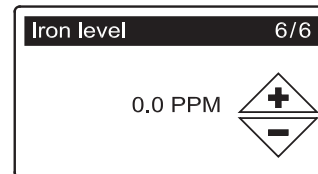

FIG. 13
- 11. IRON LEVEL** Press the UP (▲) or DOWN (▼) buttons to set the value for iron in your water (See Figure 13). The conversion factor is 3 grains per 1 ppm of clear water iron.